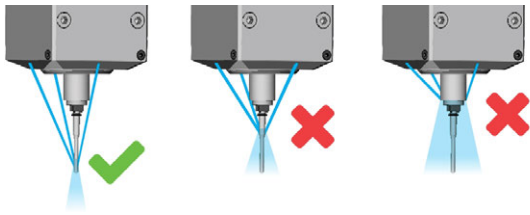

FIG. 44 CORRECT COOLING LIQUID SPRAY (LEFT) AND SPRAY WITH INSUFFICIENT PRESSURE (MIDDLE, RIGHT)
20. Wait until the cooling liquid spray is free of air and all jets hit the tool tip (Fig. 44 on the facing page). This can take several minutes.